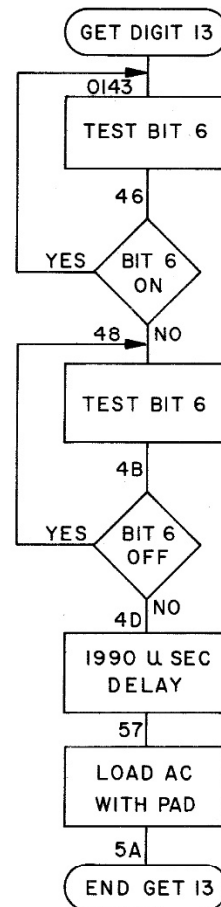

FIGURE 10
3. Digit 13 is the only digit that must be on after any given calculation, or entry. This is the reason digit 13 has been selected for test of busy status. This step brings digit 13 into the Accumulator. Figure 10 illustrates step 3 in detail.
7. A delay of fifty (50) milliseconds permits digit 13 to change, should the Microcalculator be in a calculation mode. Digit 13 must be found equal to the value of the stored digit 13 for six loops before the routine returns.